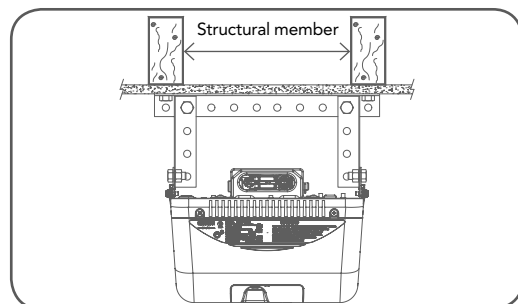

fig 13
- Secure the perforated angle (not supplied) to the ceiling above where drive unit's mounting holes will be once fully installed. A representative mounting is shown (**Fig. 13**)
- Connect the drive unit to the ceiling mounted perforated angle with M8x20mm screws and nuts. Strips should not extend more than 18mm below centre of drive unit's mounting holes (Fig. 13).